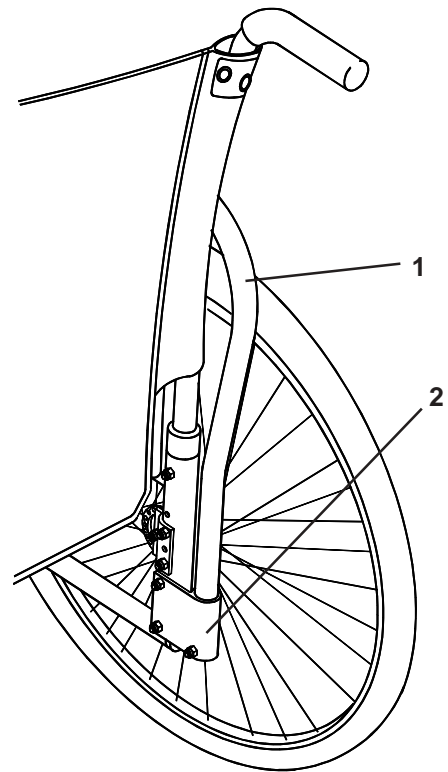

Fig. 16
Swing-away removable armrests (Fig. 16) are installed by simply sliding the armrest tube (1) into the receiver (2). To remove simply pull the armrest upwards until the tube clears the receiver. To swing-away pull the armrest upwards approximately 25mm (1") until it will swing freely away from the chair. To return the armrest to its normal position pull it towards you until you feel it drop and lock into position.